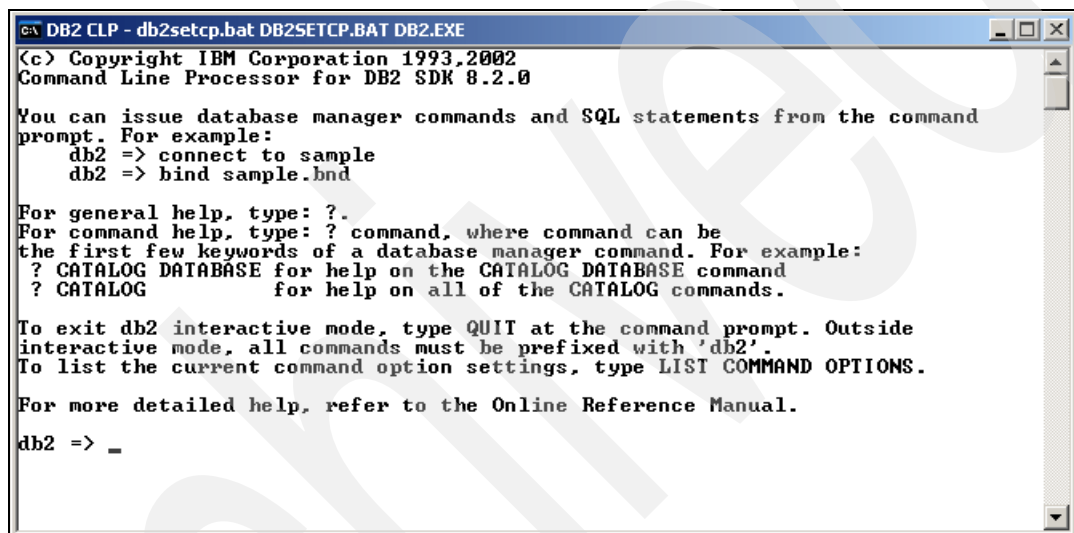

Figure 3-33 DB2 command line processor
2. Start a DB2 command line processor (Figure 3-33).